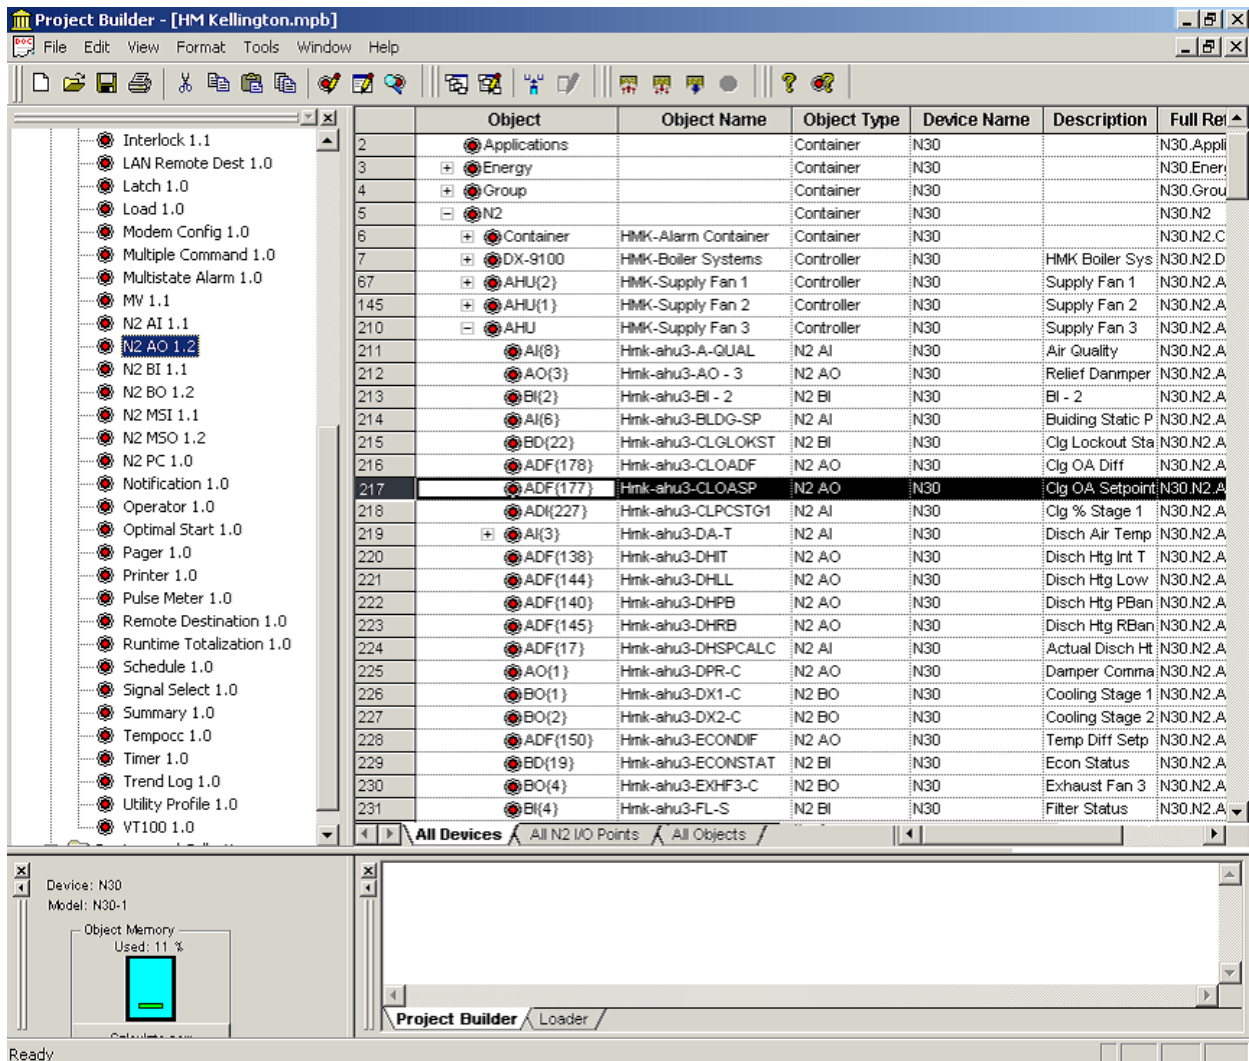

Figure 6: Project Builder - ASC Example
Note: For ASC devices, you do not have to make significant changes to points. In Figure 6, Item 217 is ADF(177) and has the Object type of N2AO.